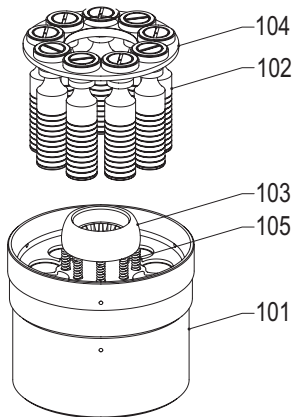

Figure 6. Rotating Group Disassembly
2. Remove the rotating group slowly by pulling the cylinder barrel (101) from the housing.
3. Identify (number) each pump piston shoe assembly (102) and its respective bore in the cylinder barrel (101) and shoe retainer (104) for easy reassembly.
4. See Figure 6. Lift out shoe retainer (104) with pistons (102) and remove the fulcrum ball (103) and shoe retainer springs (105).
See **Figure 6**.